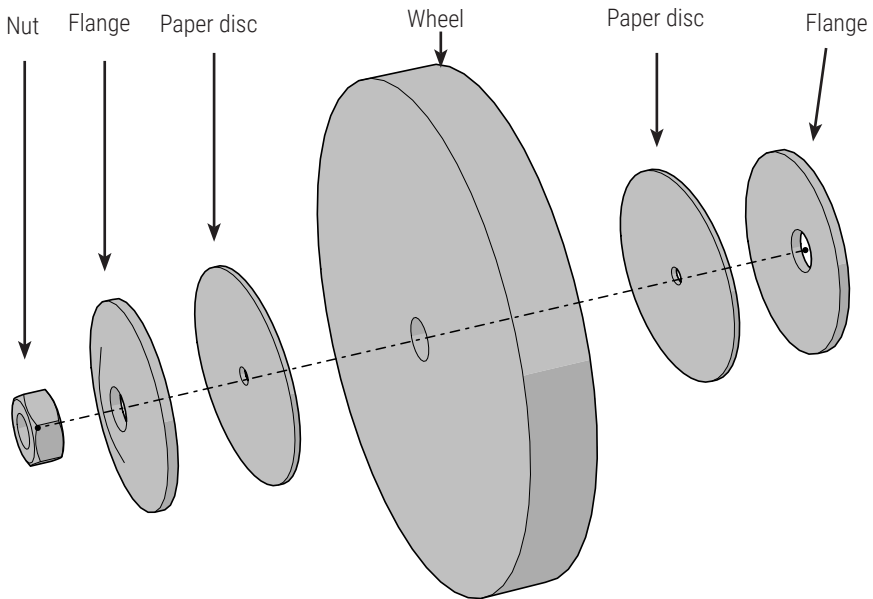

Figure 6 Wheel mounting order
- Install the new wheel in reverse order or as shown in Figure 6. Make sure that there is always a paper or fibre disc between the wheel flange and the wheel itself. Tighten the nut firmly but NOT too much. Overtightening can cause the wheel to crack.